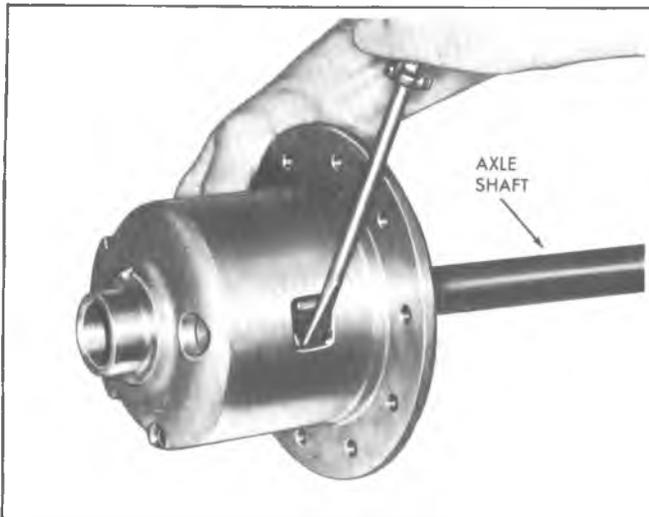

Fig. 7D-Removing Differential Pinion Gears
**For Passenger models** , pinion gears can be removed by rotating them in one direction only. Using figure 7D as a reference, rotate differential case clockwise to remove the first gear, then rotate case counter-clockwise to remove the second gear. To remove second gear, it may